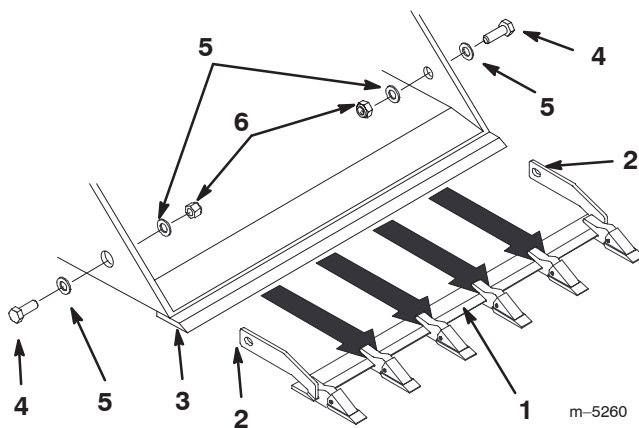

Figure 1
1. Slide the tooth bar onto the bucket with the right and left tabs positioned inside the bucket and the cutting edge of the bucket seated into the tooth bar (Fig. 1).
4. Secure the tooth bar to the bucket using 2 bolts, 4 washers, and 2 locknuts (Fig. 1).